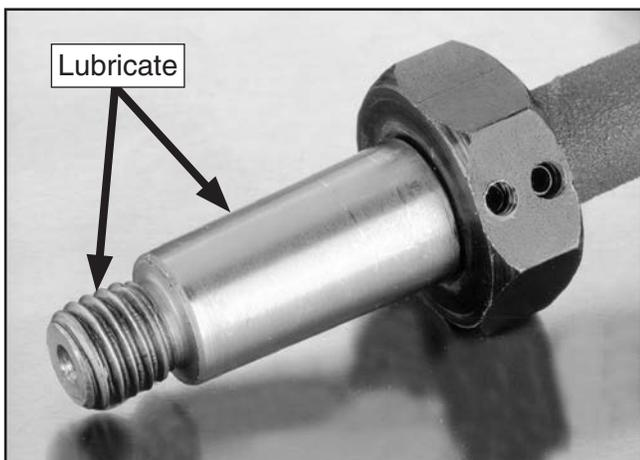

Figure 19. Spindle threads.
3. Lubricate the threads and shaft shown in **Figure 19** with a light oil.